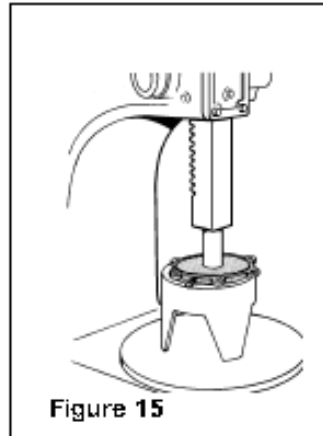
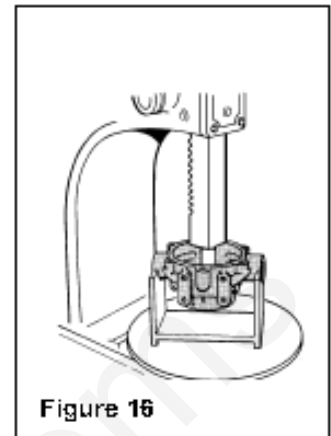

Figure 15
Figure 16
8. To remove the ball bearing place the end plate in a end plate support fixture with the front of the end plate down (See Figure 15). Center bearing support tool and slowly press bearing out of casting. Repeat procedure to remove bearing from pump body (See Figure 16) using body support fixture.